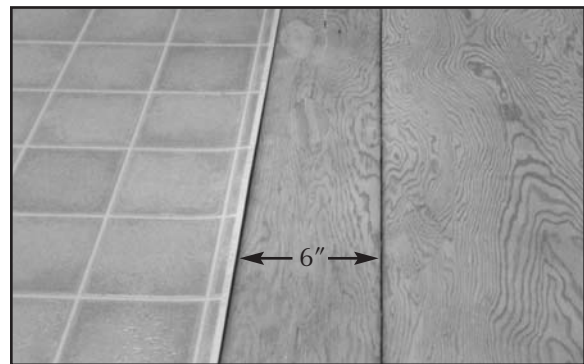

Fig. 11. Flooring seams must be at least 6" (15.2cm) from underlayment joints.
- Seams should be placed a minimum of 6" (15.2cm) from underlayment joints (Figure 11).